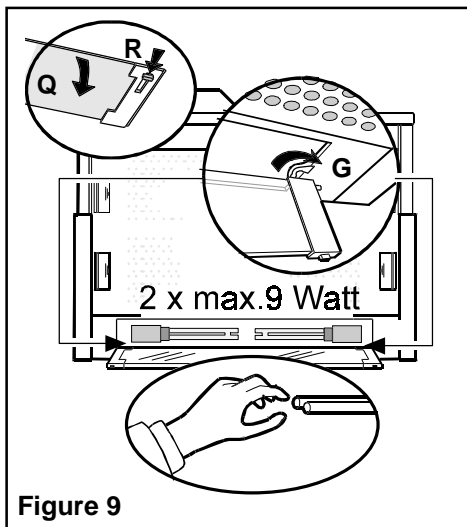

Figure 9
- Remove the light shield **Q** by pushing simultaneously the two unlocking buttons **R** (Figure 9); for safety reasons make sure to remove the light shield from its suspension slides **G**.